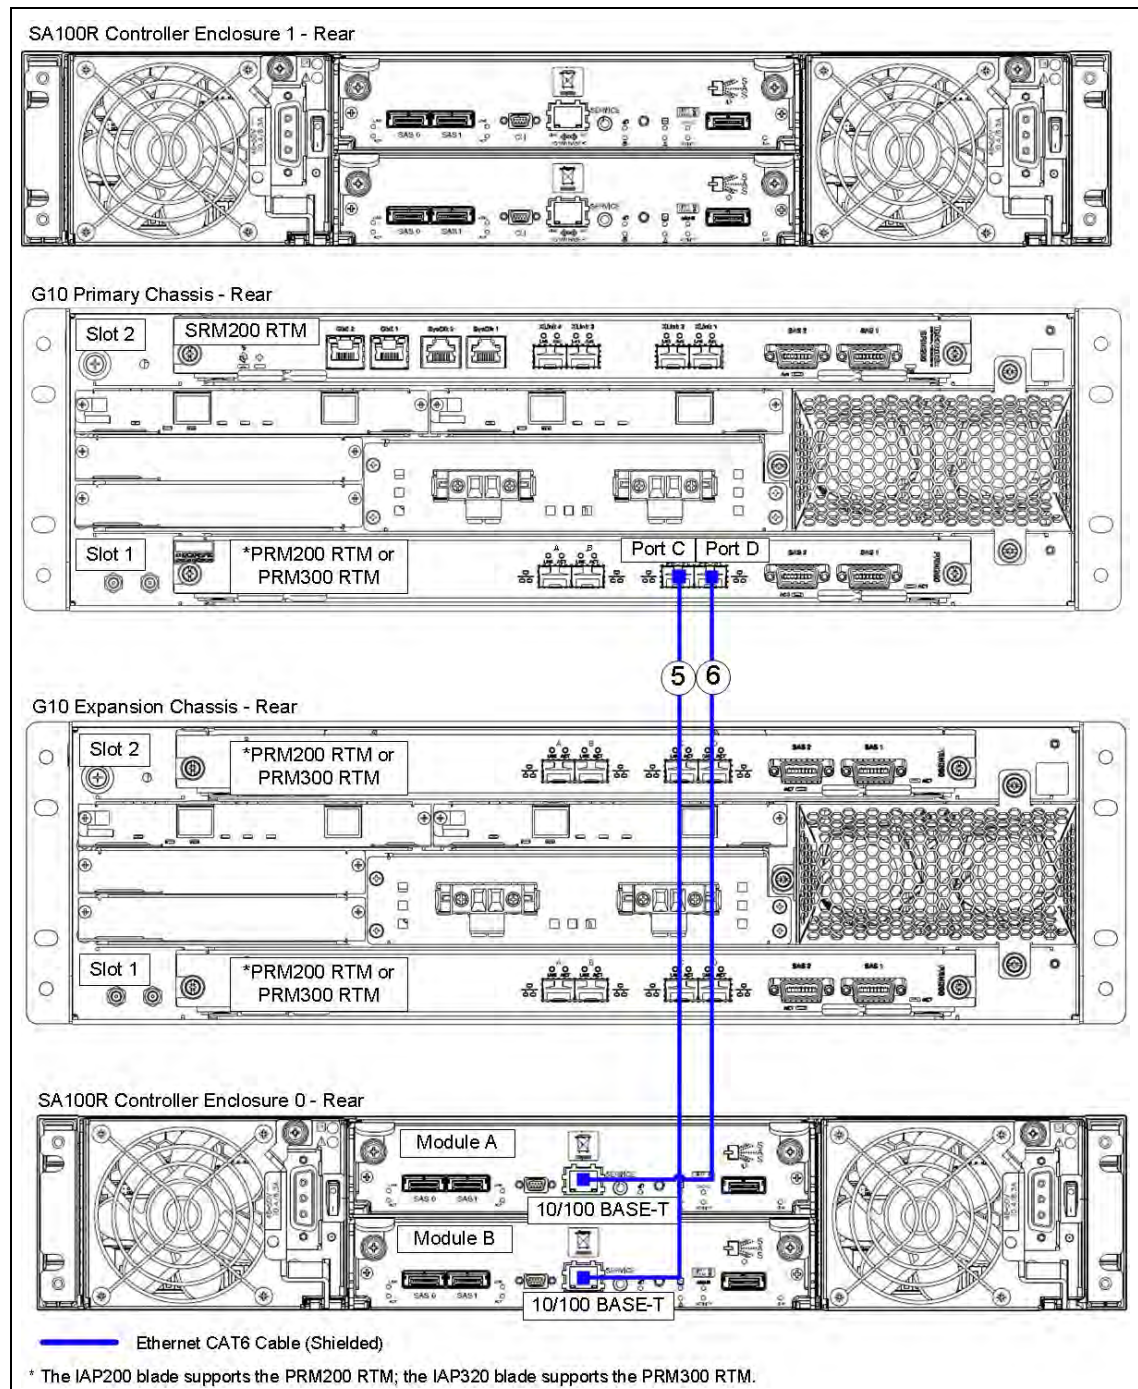

Figure 3.10 - Ethernet Connections - G10 to One Controller ONLY
- Use Figure 3.10 and Table 3.8 to connect the Ethernet cables.
6. To connect Ethernet to **TWO** storage enclosures, perform the following actions. For Ethernet cabling for **ONE** controller configurations, refer to Figure 3.10 and Table 3.8.